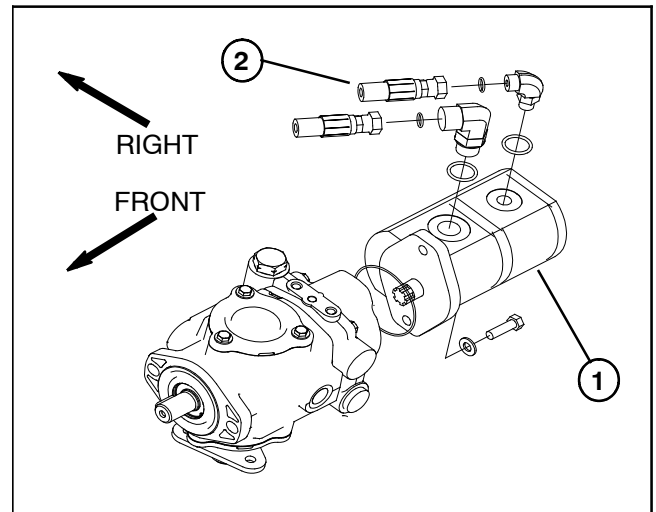

Figure 56
4. Disconnect hose connection on the gear pump (P2) leading to the steering control valve (Fig. 56).